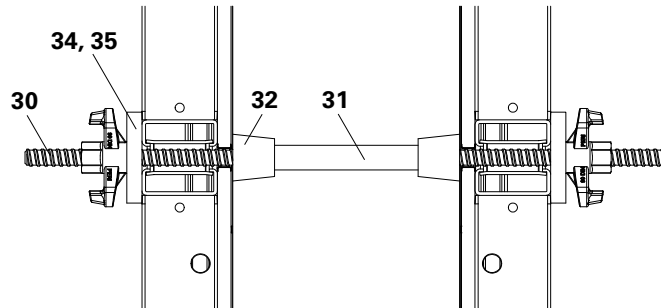

Fig. A5.02
- Tie Rod DW 20 (30)
- Spacer Tube (31)
- DK Sealing Cone (32)
- Counterplate DW 20 (34)
- Wingnut DW 20 (35)
- (Fig. A5.02)